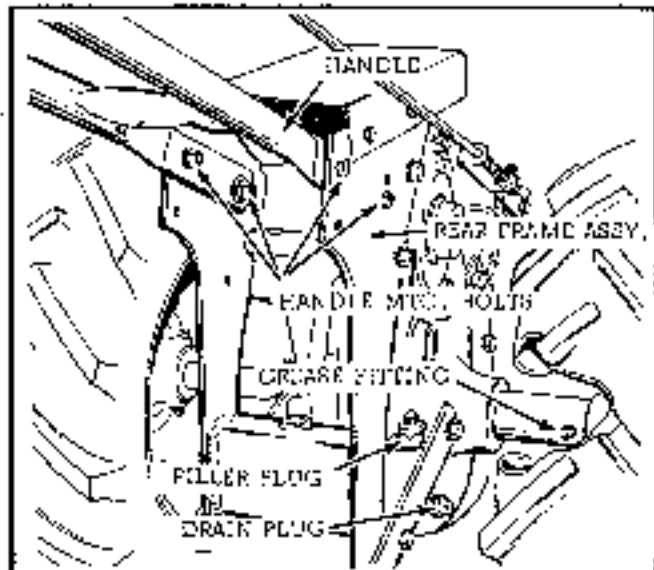

Fig. 1
1. The tractor handles attach to the rear frame assembly of the tractor as shown in figure 1. Place the tractor handles inside of the rear frame assembly, line up the holes in the tractor frame with the holes in the handle assembly and insert hex head cap screws. The two front capscrews are held in place with a flat washer, lockwasher, and hex nut. The rear capscrews are held in place with a lockwasher and hex nut. NOTE: the end holes of the handle assembly are slotted to allow for adjustment of handle height.
The transmission has a capacity of 2 1/2 quarts of SAE 90 oil, and is filled at the factory. It will not normally require replenishment, but occasionally check the drain plug for tightness and axle seals for leakage. Keep oil up to level of filler plug. Remove vent plug from top of transmission and allow oil to settle to normal level before checking. See Figure 1.
The right hand axle tube has 1 grease fitting which should receive general purpose automotive type grease periodically. Use a standard grease gun and be sure to clean the grease fitting before applying grease. See figure 1.